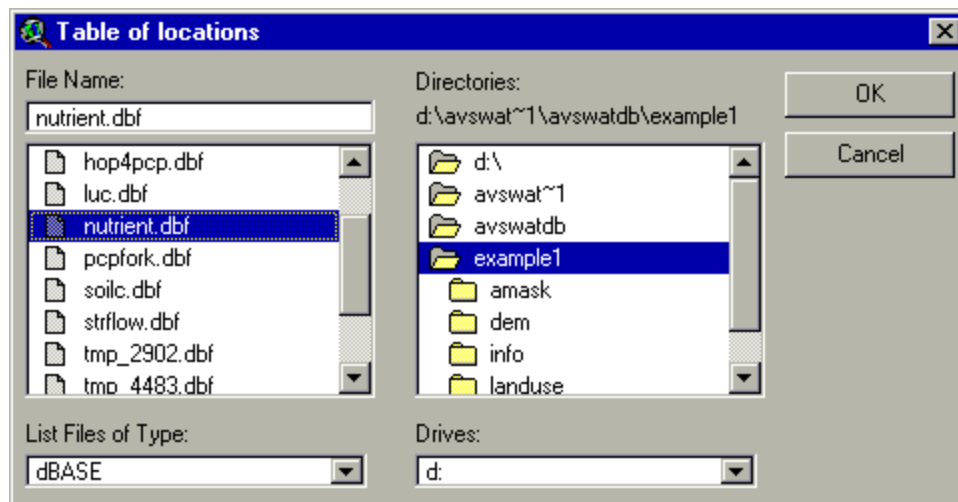

Figure 15.21
17. A browser will be displayed (Figure 15.21).